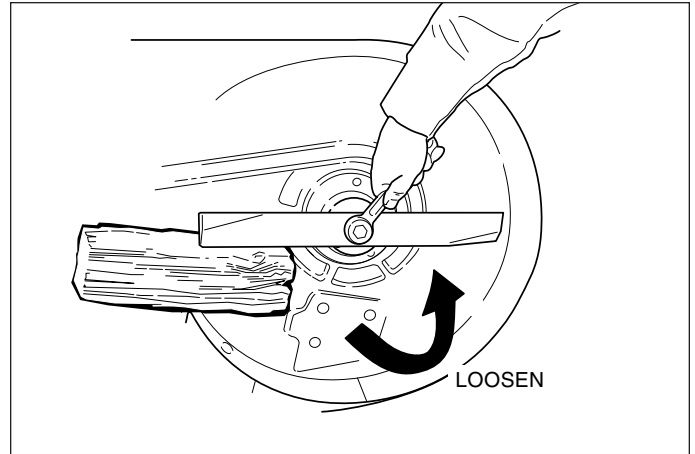

Figure 19. Blade Removal
2. To remove blade for sharpening, use a block of wood to prevent blade rotation while loosening the cap-screw (see Figure 19).